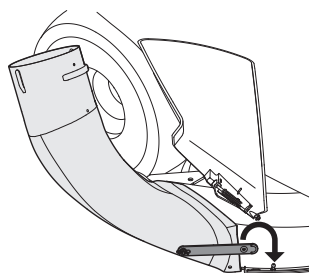

Figure 24
4. Secure the discharge chute elbow to the tractor's deck by hooking the chute strap onto the ball pin installed earlier on the deck. See Figure 24.